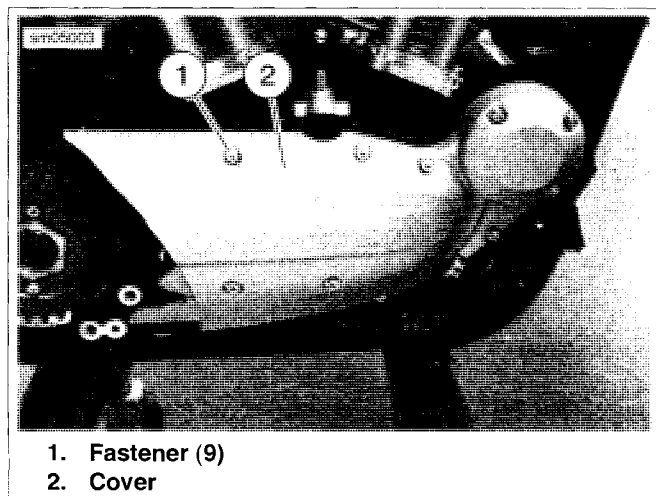

Figure 3-169. Oil Pump Cover: XR Models
4. See Figure 3-169. Remove nine fasteners (1) and remove gearcase and oil pump cover (2).